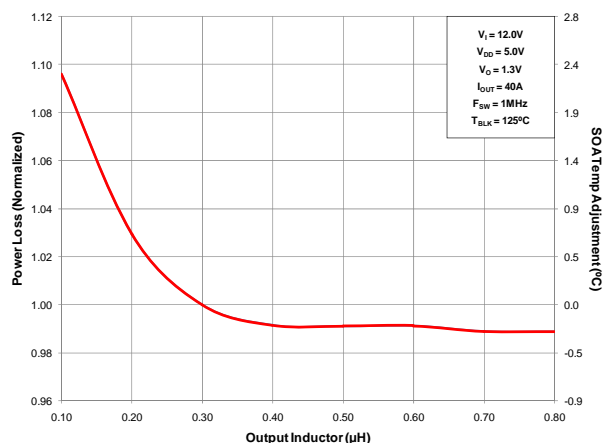

Figure 6 Normalized Power Loss vs. Inductance
| (Figure 6) | Normalized power loss for output inductor ≈ 1.03 |
- (Figure 6) SOA temperature adjustment for output inductor $\approx 0.6^{\circ}\text{C}$